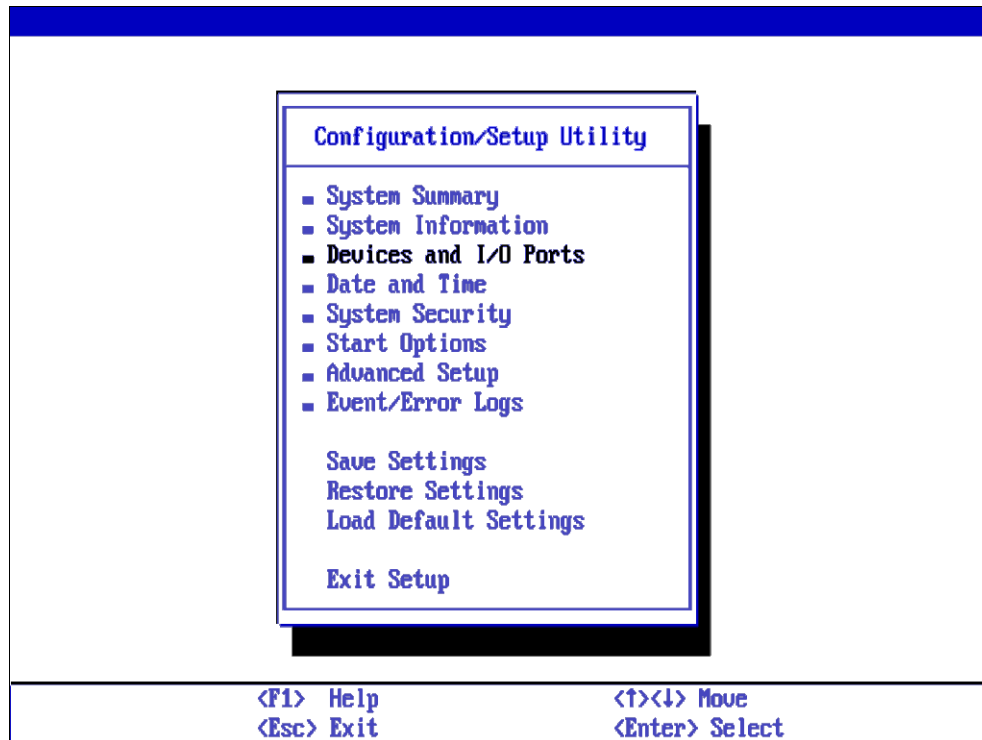

Figure 6-4 Devices and I/O Ports
2. Select **Devices and I/O Ports** from the main menu, as shown in Figure 6-4.